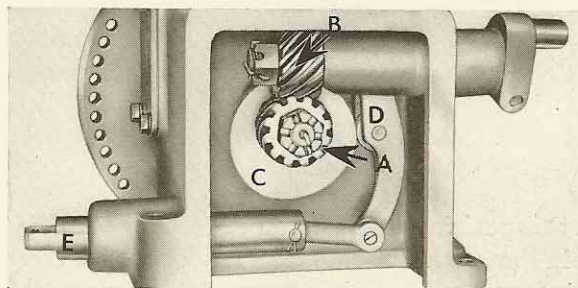
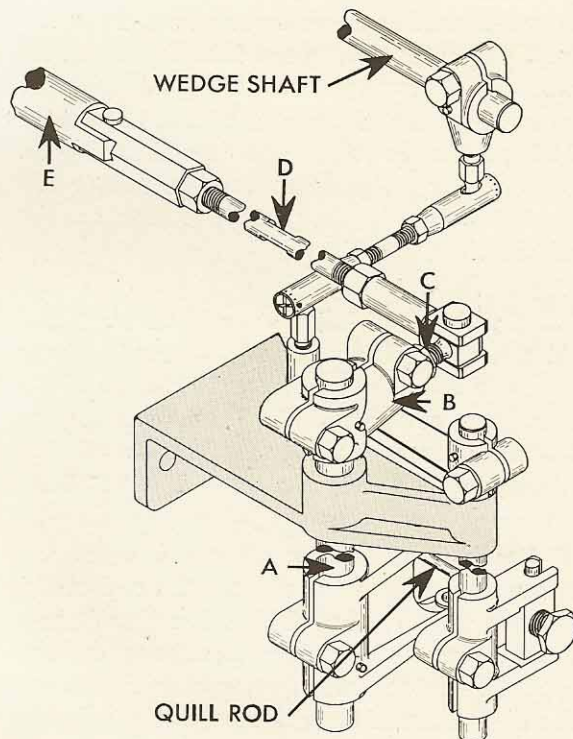

FIGURE 18-14
FIGURE 18-17
26. LATCH-SHAFT INTERLOCK: The latch shaft must be in either the ahead or astern position before starting air is supplied to the engine. To safeguard this maneuver, an interlock is provided which makes a mistake impossible. This interlock also "freezes" the latch shaft in whichever position corresponds to the direction the engine is turning. It is controlled from the single lever control unit through the two gears shown in Figure 18-14. If these gears are removed they should be carefully marked so that they may be assembled in their correct position. Gear (A) is on the control lever shaft while gear (B) is on the cross shaft which operates the interlock.
28. GOVERNOR CONTROL: As the control lever is moved toward either full speed ahead or astern, the cam (C), Figure 18-14, acts on the roller in lever (D). As this lever is pivoted
at the top end, the plunger (E) is pulled in each time the lever rides up on the lobe of the cam. This movement is transmitted through the linkage, shown in Figure 4-12, to the governor spring. In this illustration, the movement is supplied by the governor control handle, while on engines having single lever control, the rod is connected to the plunger (E), Figure 18-14.
29. SETTING SPEED RANGE: The speed range between fast and slow, on the control lever, can be altered by changing the amount of lever travel which is transmitted to the governor spring. On top of the vertical shaft (A), Figure 18-17, which applies governor spring pressure, there is a short horizontal lever (B), to which is attached the rod from plunger (E), Figure 18-14 or Figure 18-17.
30. SETTING FULL SPEED ADJUSTMENT: The rod (D), which connects plunger (E), Figure 18-17, to the governor control linkage, has right and left hand threads and by turning, can be lengthened or shortened. Shortening the rod will apply more pressure to the governor spring for the same control lever position. This means that the engine will turn faster before the governor weights can move out, from centrifugal force, and act on the wedge shaft, through the quill rod and linkage.